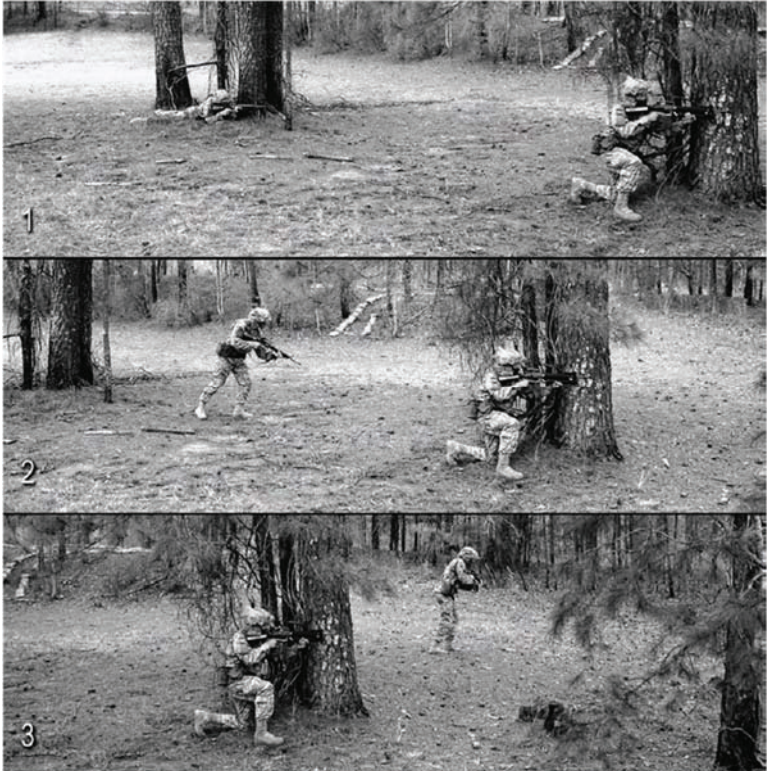

Figure 071-COM-1502-3. Rush.
c. Moved using the rush technique (figure 071-COM-1502-3).